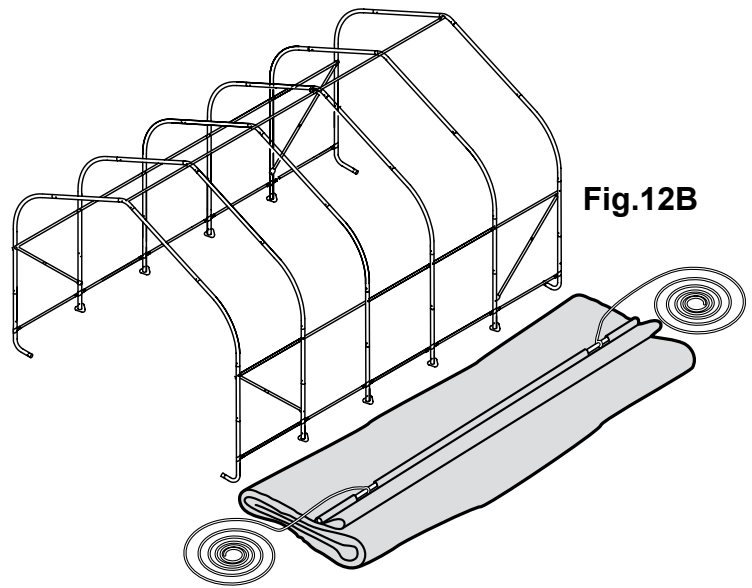

Fig.12B
2. Fold over the side closest to the frame so the pipe pocket is now accessible. Insert a cover pipe at the first middle rib from the front and the first middle rib from the rear so that it is inserted in the pipe pocket on both ends of the pipe but the center of the pipe is exposed. For long buildings it may be necessary to use additional pipes in the middle. **Fig. 12B**